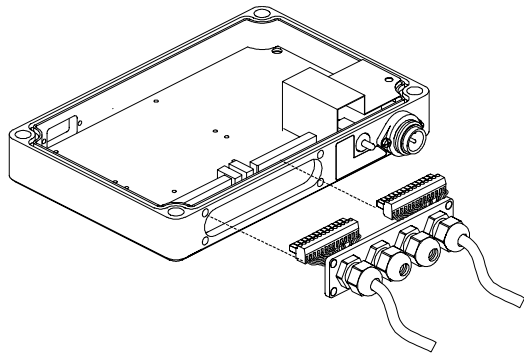
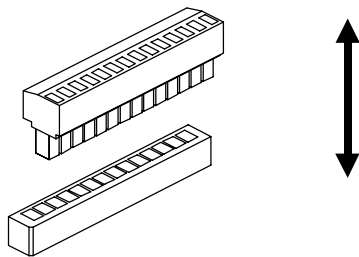

Figure 5 - MX4000 view
Figure 6 - Terminal block connector and base
- 9) After inserting all the wires into the terminal block connectors, pass them through the glands panel hole and insert them into the base again (see Figure 5 and Figure 6).